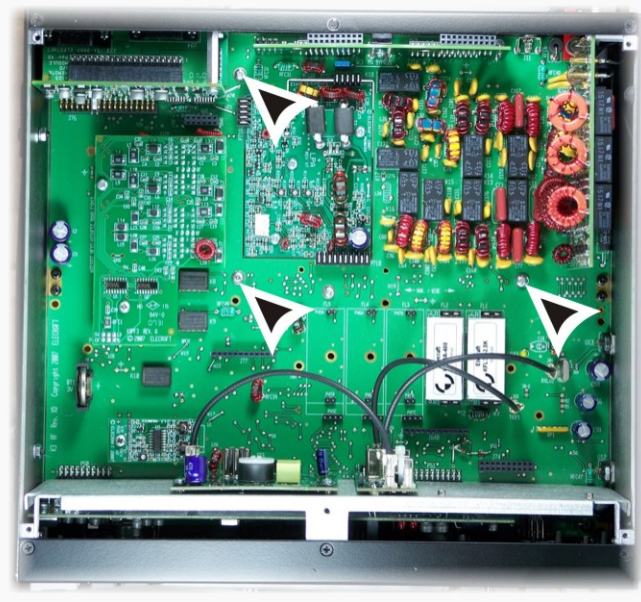

Figure 6. Rear Shield Mounting Screw Locations.
- ☐ Remove the three screws, washers and standoffs (on the bottom of the RF) board shown in Figure 6. Save the lock washers and standoffs. The screws will not be reused.